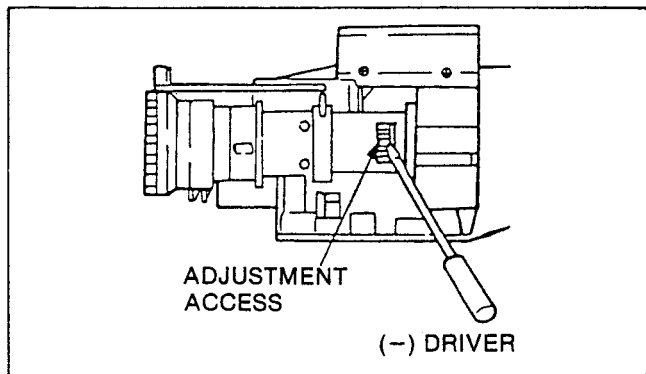

Fig. C6
- (1) Aim the camera at the Hunting Chart 3m distance and zoom all the way in fully tele position.
- (2) Focus the lens on the object.
- (3) Confirm that Focus ring indicates 3m.
- (4) Adjust the relay lens adjustment point as shown in Fig. C6.